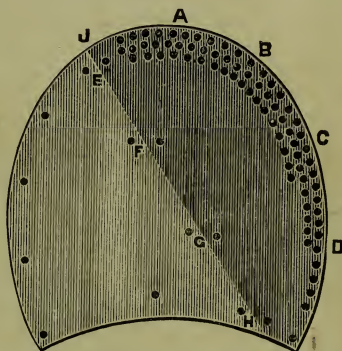
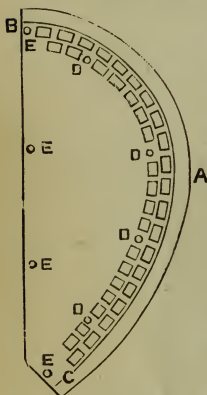
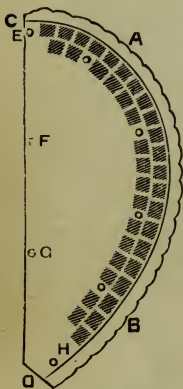
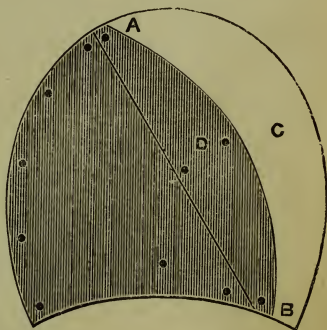

Fig. 2.—New Half Heel with Rivets to Resist Wear.
Fig. 3.—Half-Heel Piece Holed and Hammered.
Fig. 8.—Half-Heel Piece Bradded.
Fig. 10.—Heel Prepared for Half-tip.
half of it, which can be replaced with any corner of hard sole leather that would be almost useless for any other purpose. To remove half of the top-piece, cut it across at B C, and should the lift be worn, saw or cut that through as well at D E; tack a piece of leather on to take the place of the worn piece of lift, putting the tacks in at F and F. Then trim it round, and put some odd corner of hard sole leather on in like manner, to take the place of the worn part of the top-piece. Trim this also, and nail it as shown in Fig. 2. In this case, four of the rivets
Before letting new heels wear away, take a piece of paper with one straight line and lay this across the heel, from J to H (Fig. 2) ; hold it with two fingers of the left hand quite firm at F and G ; then with the right hand smooth it down over the edge from J, passing A, B, C, and D on to I ; this will leave a mark on the paper. Cut out to this mark, and it will give a good pattern of a half-heel piece, as Fig. 3, without the outside line A. To this cut another pattern out of stiff cardboard, as it will very often be wanted for use.
When leisure occurs cut sole leather to pieces of this pattern, leaving $\frac{1}{4}$ in. on all round the curved side A (Fig. 3), to give room for nailing. Here it will be necessary to explain how to make an awl for this purpose, as, unlike all other awls, such awls cannot be bought ready for use, but it is a tool that saves much time and disappointment.
The piece of leather in Fig. 3 should be of good
irregular-looking than shown in Fig. 3; but this does no harm, for so long as the awl is held in the same position for each hole, the brads are sure to follow into their proper places.
cut-bill, and it is this brad that must be used to put into the holes made in Fig. 3. Let the length of the brads be as nearly equal to the substance of the leather as possible; lay the leather upon a piece of wood, and knock the brads in the square holes one at a time. When they are all in, take the leather off the wood, and lay it on the lap-iron with the points of the brads upwards. These, if they are not too far through, can be clenched and made smooth by tapping with a hammer; but if they are through far before trying to clench them, they must be cut off with a pair of cutting tongs close to the leather.
This done, the half-heel is ready for use. Several may be prepared, and then all that is necessary to half-heel the boots is to cut the top-piece across, as shown, from J to H (Fig. 2), take away the worn part, and replace it with the new piece. Fig. 8 shows where it should be bradded, and also the places for eight $\frac{5}{8}$ in. rivets; these are all that is necessary to hold the piece on, and will allow it be taken off easily when another heel-piece is wanted.
It will be found that the small margin, A B (Fig. 8), after the brads have been put in, has become somewhat contracted. This is why the extra $\frac{1}{4}$ in. of leather was left, for it would break if nailed close to the edge. Now
you can trim up the edge of the piece to the edge of the heel, cutting close to the brads, on the line c to D, and finish in the ordinary way. The first time the boots are half-heeled, it will be necessary to put four rivets in the old leather at E, F, G, and H (Fig. 8), to keep it from ripping off.
9), price $1\frac{1}{2}$ d. Put one on the heel in its proper position, mark round the inside from A to B (Fig. 10), and cut away the part, c, that the tip is going to replace. Lay the tip on the lap-iron face down, and hollow it in the centre, that it may grip well at both ends, then dip it in water to soften the leather plugs, and put it on the heel. With a fine awl make a hole through the centre of each plug, and put a long rivet, which would be supplied with the tips, in each hole. Smooth it up with a file where rough, and you have a new lease of heel wear for $1\frac{1}{2}$ d., and a very little trouble. If it is found difficult to cut the curved line to fit the tip from A and B, cut the heel straight across, as in Fig. 2, from J to H, and after the tip is on cut a small piece, as D (Fig. 10),